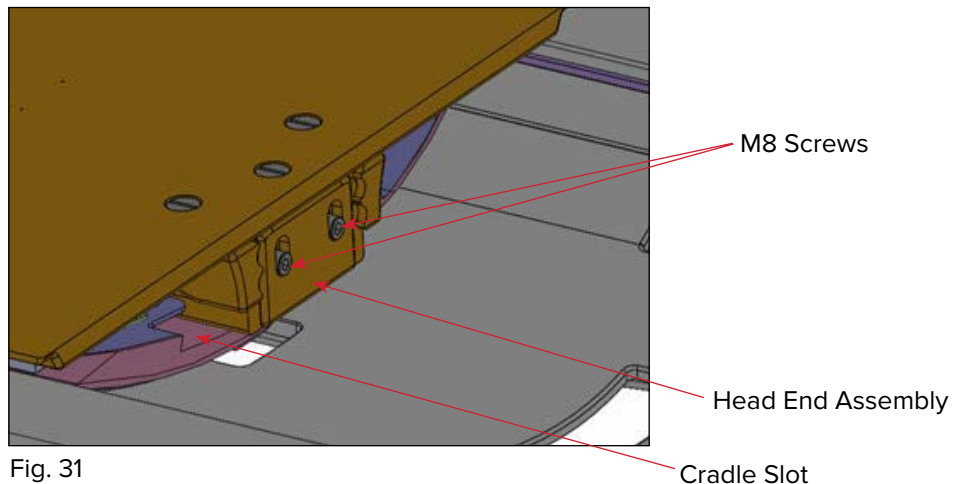

Fig. 31
3. Loosen the M8 screws on the Head End Assembly and slide the Front Lip Catch up or down to a point where it can smoothly slide into the cradle slot (Fig. 31).